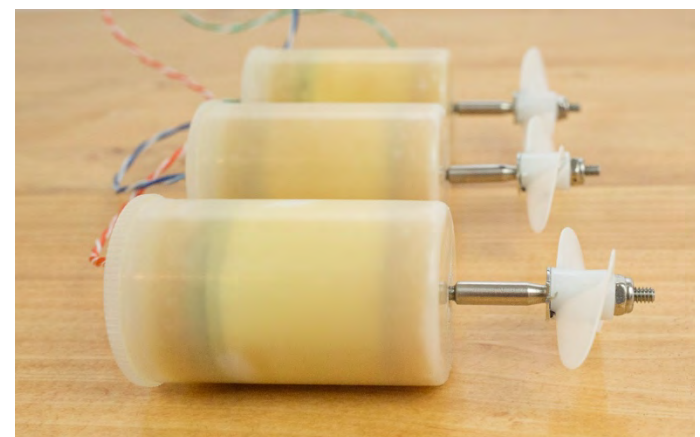

Figure 39
- Repeat for the other two thrusters. Three completed thruster assemblies are shown in Figure 39.